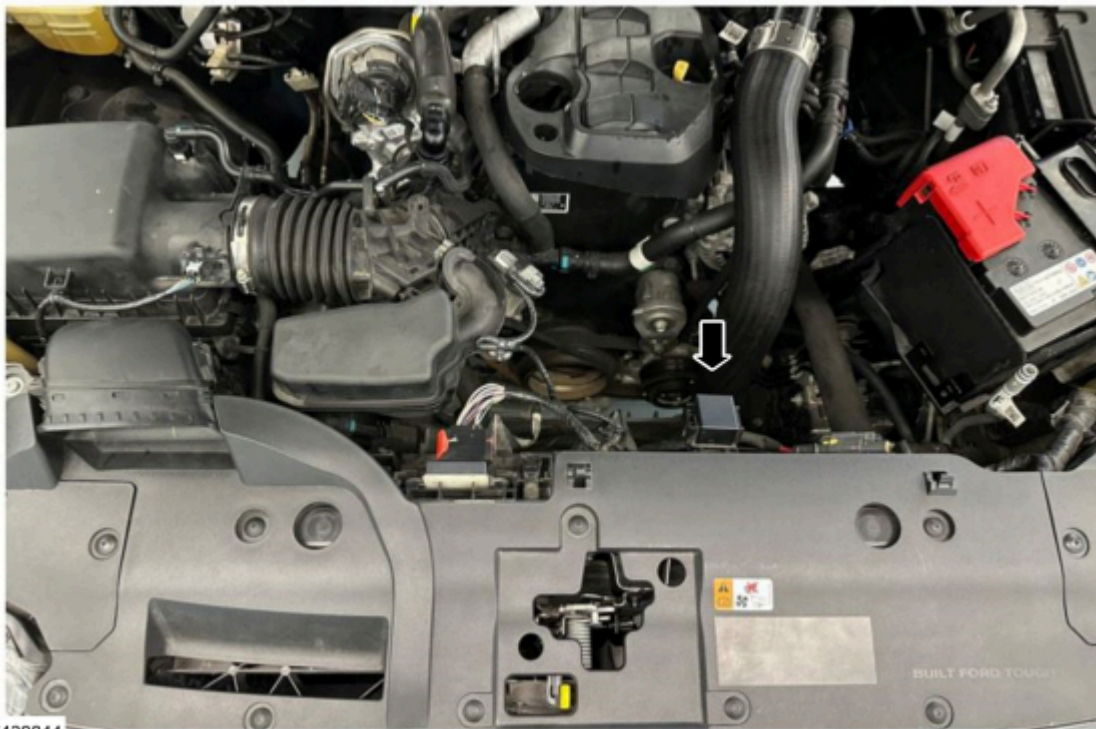

Figure 9
2. Access the cooling fan relay location. (Figure 9)